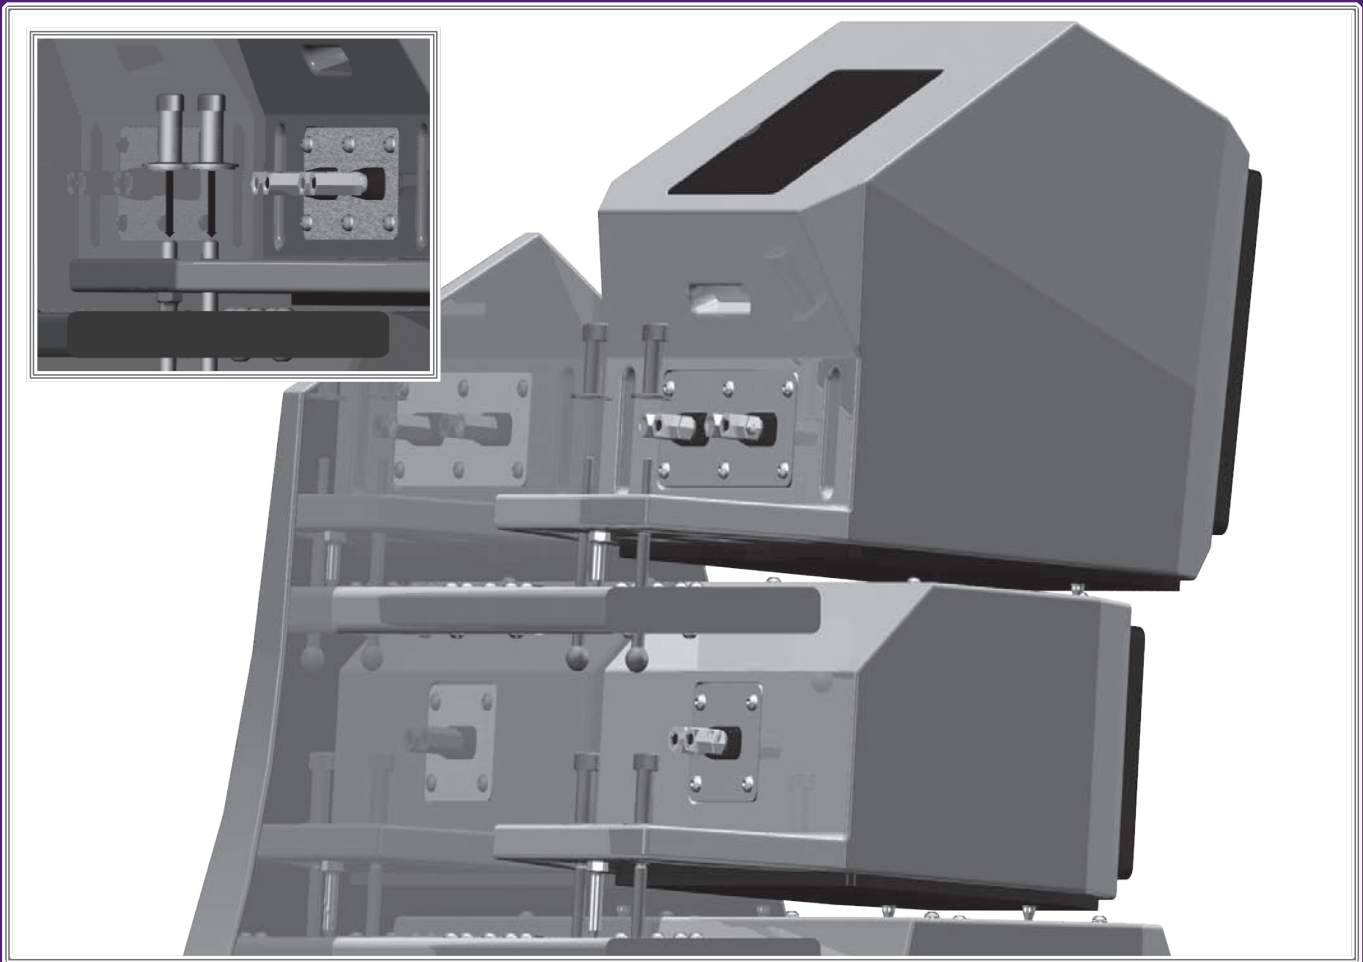

FIGURE 19 - INSTALL THE TETHER BOLTS. CUTAWAY OF X-2 SHOWING BOLT ASSEMBLY.
- The tether bolts for the lower midrange module have already been installed beneath the alignment plate (see Section 4.1). Place the tether cap nuts and rubber washers on the bolts, alternatively tightening them in small increments so that LMRM is tensioned symmetrically and snugly against the propagation delay spike (see Figure 19).